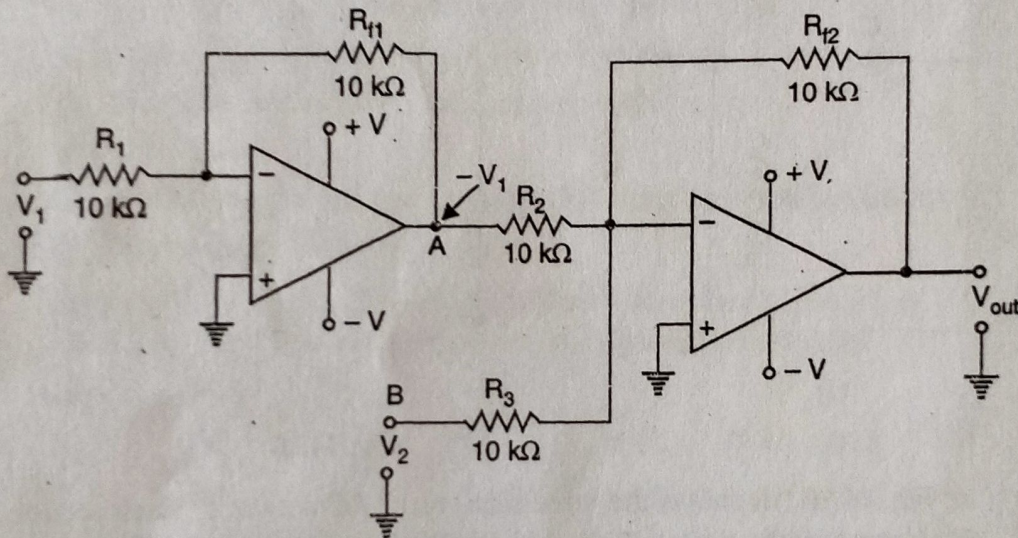

Fig. 25.78
2. As **subtractor**. A summing amplifier can be used to provide an output voltage that is equal to the difference of two voltages. Such a circuit is called a **subtractor** and is shown in Fig. 25.78. As we shall see, this circuit will provide an output voltage that is equal to the difference between V_1 and V_2 .